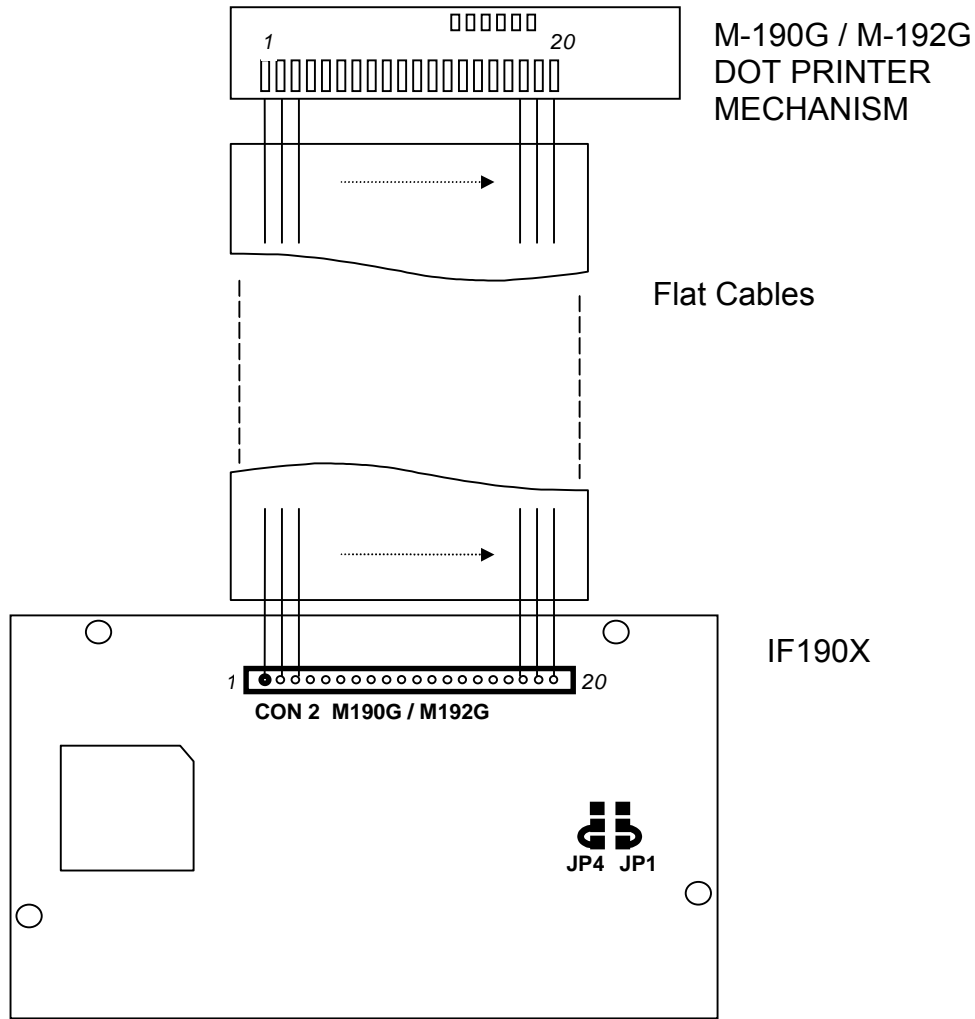

Fig. 2.5.- Connecting EPSON M-190G / M-192G Printer to IF190X **CON 2** printer terminals.
If using M-190G / M-192G micro dot printer connect it to **CON 2** (see **fig. 2.5**).
- 1.- Solder **JP1** and **JP4** pads as shown in **fig. 2.5**.